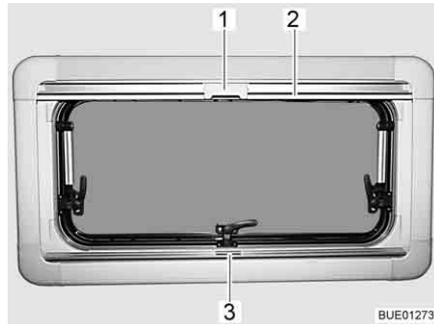

Fig. 72 Hinged window
- Grip the Roman shade in the centre of the holding bar (Fig. 72,3), pull it from the bottom to the top and then release it at the desired height. The Roman shade will stay at this height.
- Pull the insect screen down using the holding bar (Fig. 72,2), until it touches the holding bar of the Roman shade (Fig. 72,3).
- Clip the catch (Fig. 72,1) on the insect screen into the handle of the Roman shade.
- Push the catch (Fig. 72,1) on the insect screen inwards.
- Move the insect screen back slowly on the holding bar (Fig. 72,2).